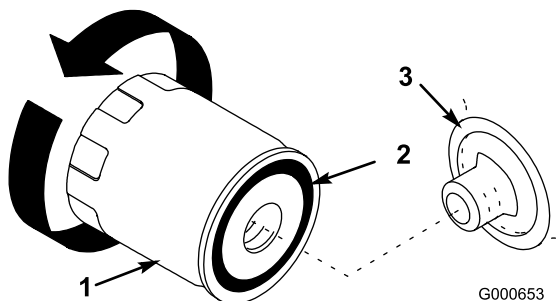

Figure 22
- Remove the old filter and wipe the filter adapter (Figure 22) gasket surface.
- Apply a thin coat of new oil to the rubber gasket on the replacement filter (Figure 22).
- Install the replacement oil filter to the filter adapter. Turn the oil filter clockwise until the rubber gasket contacts the filter adapter, then tighten the filter an additional 1/2 turn (Figure 22).